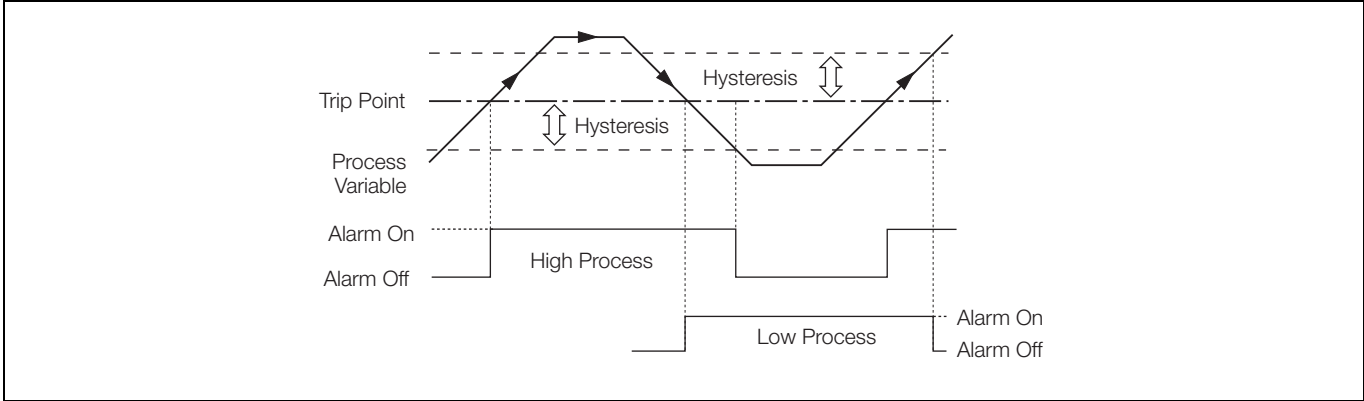

Fig. 4.12 High/Low Process Alarms
- High/Low process – see Fig. 4.12, page 78
Note. Process and Latch alarms only – see Figs 4.12 and 4.13.